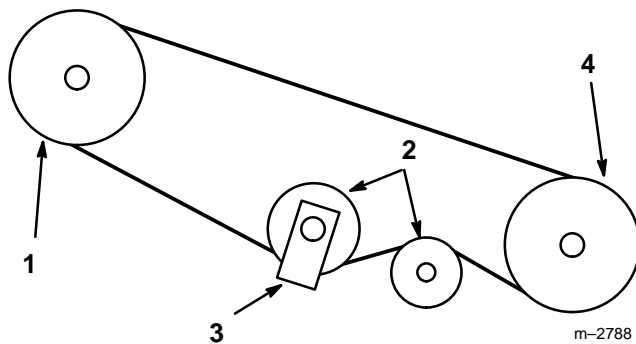

Figure 15
5. Rotate idler bracket to relax belt tension and slip belt off snowthrower pulley (Fig. 15),